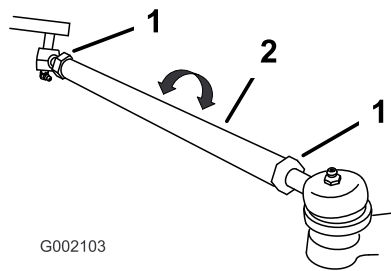

Figure 35
7. If the measurement does not fall within 0 to 6 mm (0 to 1/4 inch), loosen the jam nuts at both ends of the tie rods (Figure 35).